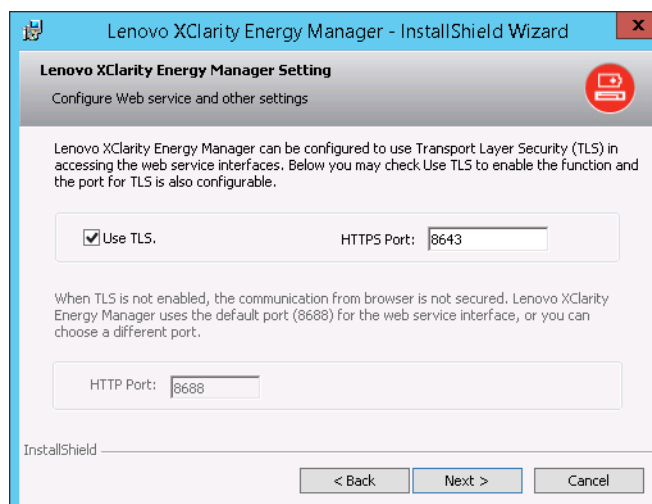

Figure 7-29 Configure web service
- Specify the port to be used for the web service that will be used to access the Energy Manager interface in Figure 7-29. By default, TLS (Transport Layer Security) is set to enabled. When TLS is enabled, Energy Manager communicates via port 8643 by default.
Enter the following default URL in a supported web browser to launch the Energy Manager if you enabled Transport Layer Security (TLS) during the installation procedure as shown in Figure 7-29 on page 268. Enter the port you specified during installation if you didn't accept the default.